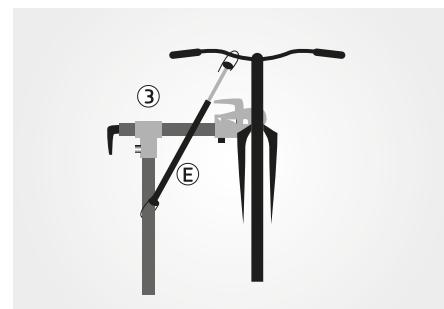

Fig. 3
- Please adjust the angles BEFORE loading the bike and make sure all locking number **(3)**, **(5)** quick release handles are tightened in advance. And also can rotate direction as you needed use number **(3)**, **(5)**. If adjusting the height or rake of the stand after loading a bike we recommend that 2 people are used. To stabilize the front wheel, you can insert the front wheel stabilizer (**E**) **Fig. 3**, between the handlebars of the front wheel and the telescopic bar.